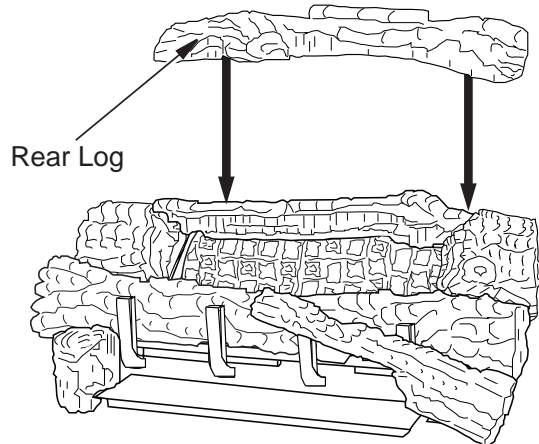

Figure 31 - Installing Rear Log
8. Rest rear log in back corner sections of chassis assembly as shown in **Figure 31**.